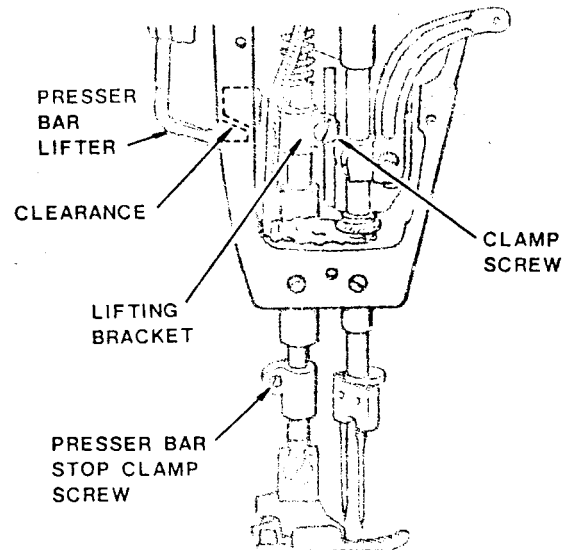

Fig. 26. Setting the Presser Bar
2. Presser bar lifter and lifting bracket should have a slight clearance between them, as shown in Fig. 26.
To adjust, loosen clamp screw in lifting bracket and clamp screw in presser bar stop, as shown in Fig. 26.